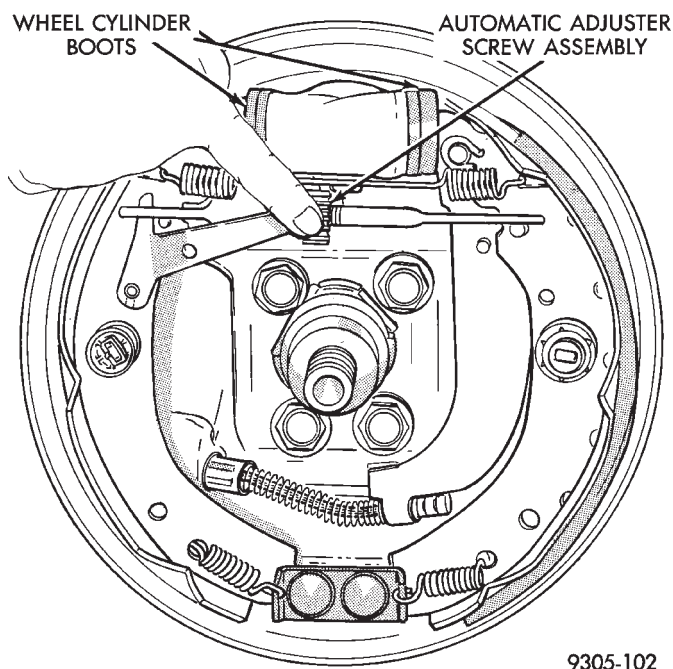

Fig. 7 Expand or Retract Adjuster Screw
(4) Rotate the automatic adjuster screw assembly so that each shoe assembly moves out far enough to be free from the wheel cylinder boots (Fig. 7).